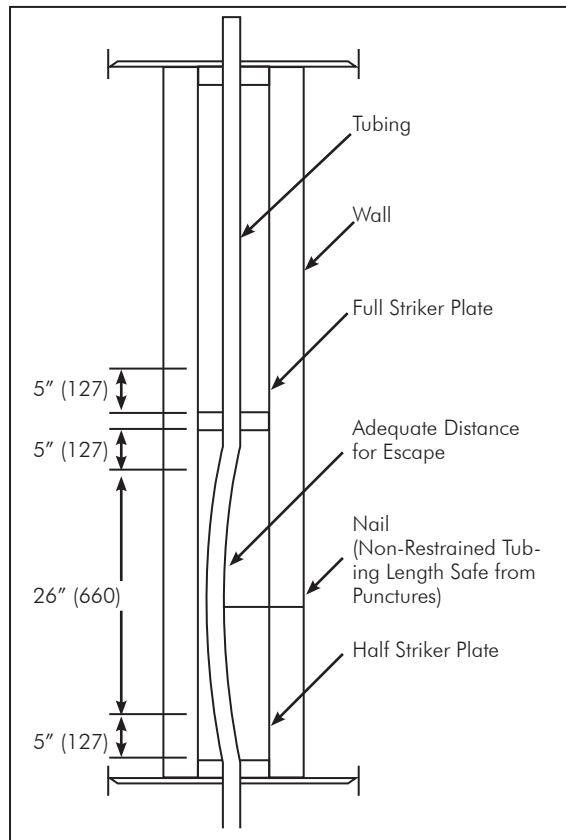
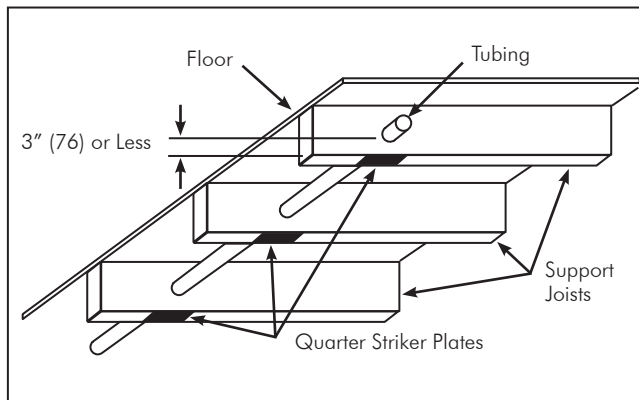

FIG. 4-13 Long Unsupported Tubing Runs, over 3 ft. (9.84m), Within an Interior Wall Partition
FIG. 4-15 Shielding Required for Tubing Running Through Joists Within 3" of a Potential Nailing Surface
1. Install shielding devices, ie. Striker plates to protect the tubing from penetration by drill bits, nails, screws, etc. (See **FIG 4-13**) in those areas where the tubing will be concealed and will not be free to move and avoid such puncture threats.
- At support points and points of penetration less than 2" (51) away from any edge of a stud, joist, plate, etc. shielding is required at the area of support and within 5" (127) of each side (if appropriate). Use a half striker or a full striker plate in these locations.
- At support points and points of penetration 2" (51) to 3" (76) from any edge of a stud, joist, plate, etc. Shielding is required throughout area of support. Use a quarter striker plate in these locations (See **FIG 4-15**).